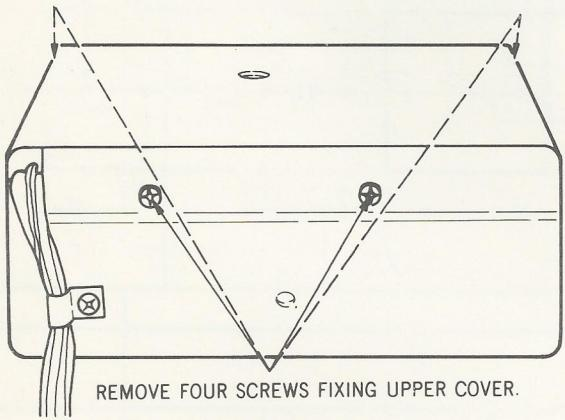

Fig. 5
2. Removal of upper cover (See Fig. 5)